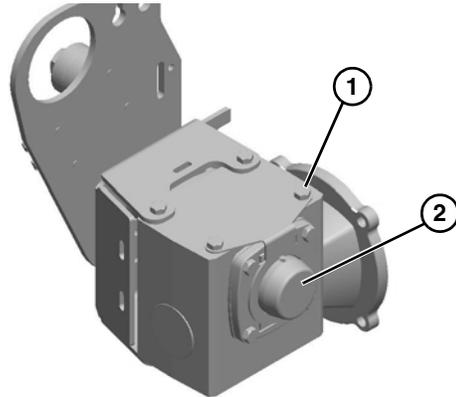

Figure 24
6. Remove two bolts (**Figure 24, item 1**) and gear reducer output shaft cover and bracket (**Figure 24, item 2**).